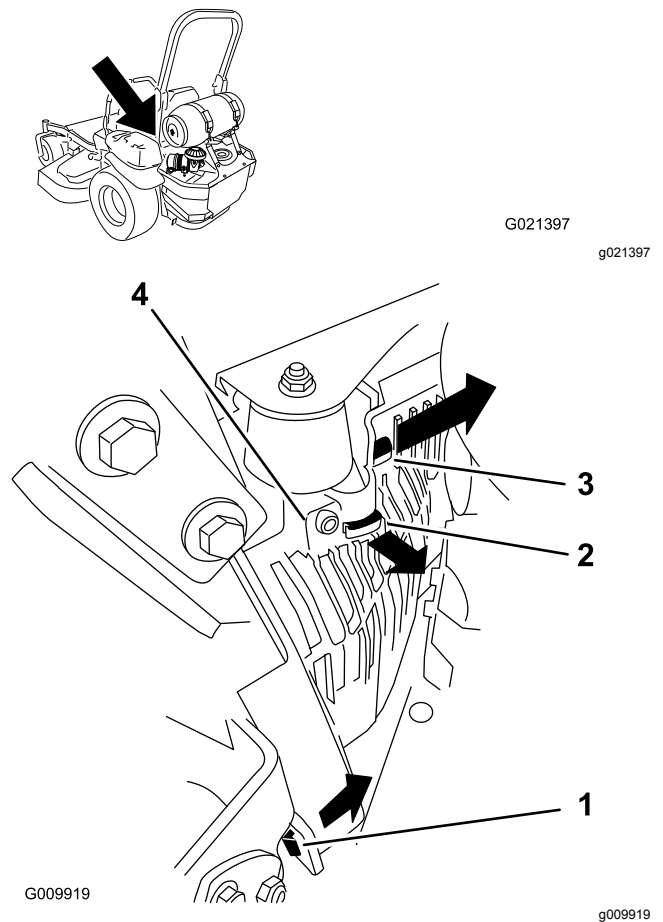

Figure 52
3. Remove the left hydraulic-unit shroud in the order listed with Figure 52. This gives you access to the front spark plug.
5. Install the left hydraulic-unit shroud (Figure 52).